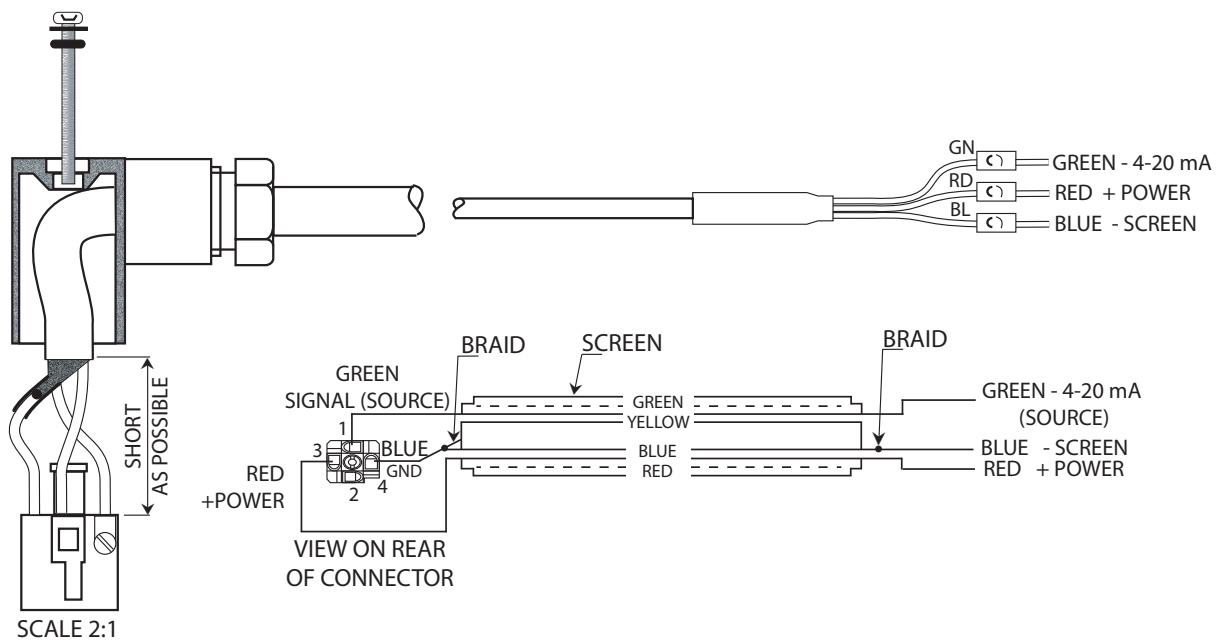

Figure 16 *Wiring Connections*
For the transmitter to work properly, and to achieve maximum performance, the sensor cable must be connected to the electrical connector as shown in *Figure 16*.
**Always connect the 4-20 mA return signal to a suitable load (see Figure 16) before the power is applied. Without this connection, the transmitter may be damaged if allowed to operate for prolonged periods.**